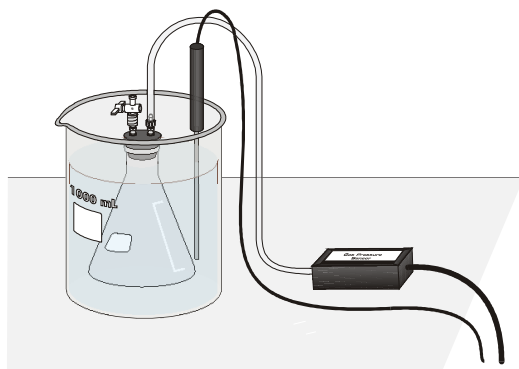

Figure 3
- d. Close the 2-way valve above the rubber stopper—do this by turning the valve handle so it is perpendicular with the valve stem itself (as shown in Figure 3). The air sample to be studied is now confined in the flask.